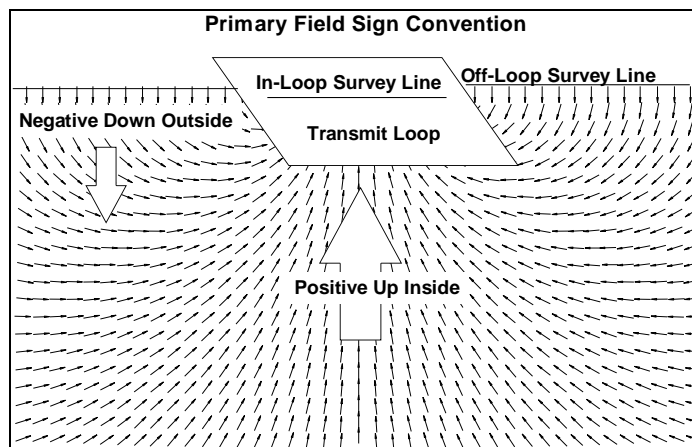

Figure B1: Primary field sign convention for TEM surveys.
TEM profiling is conducted on lines either adjacent to (Off-Loop mode) or surrounded by (In-Loop mode) a large fixed rectangular transmit loop. Current is passed through the loop which following the Turn-Off, produces a primary magnetic field (H) both inside and outside (Figure B1). This primary field induces a vortex current pattern, which energizes conductors and which in turn create their own secondary magnetic field (Bs). The rate of change of the decaying secondary magnetic flux (dBs/dt) is measured as the vertical (**H_z**), in-line horizontal (**H_x**) and/or cross line horizontal (**H_y**) vector components on surface using an air-core sensor coil. These measurements of the TEM decay (20 log-time slices) are taken during the "Off-Time", using a 30 cycle/sec, base repetition rate.